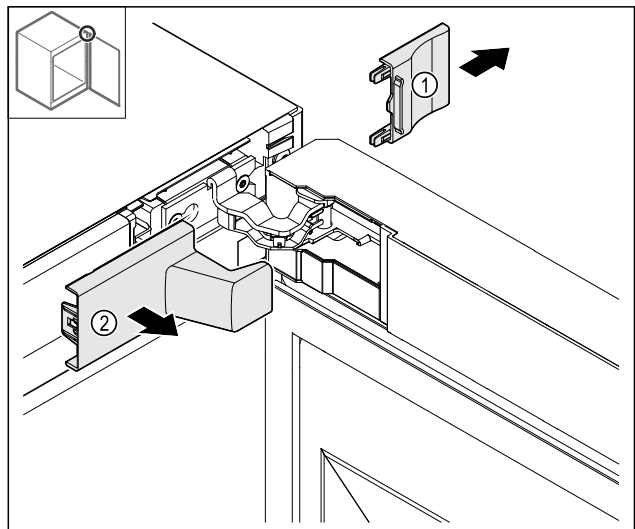

Fig. 9
- ▶ Remove the cover Fig. 9 (1) and then Fig. 9 (2).